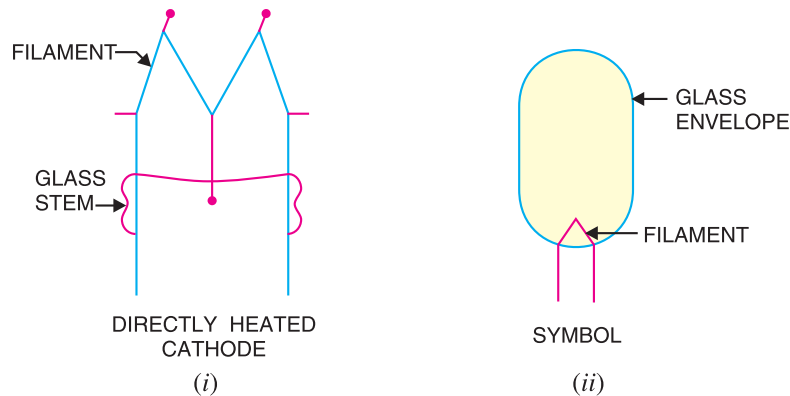

Fig. 2.2
**(i) Directly heated cathode.** In this type, the cathode consists of oxide-coated nickel ribbon, called the \*filament. The heating current is directly passed through this ribbon which emits the electrons. Fig. 2.2 (i) shows the structure of directly heated cathode whereas Fig. 2.2 (ii) shows its symbol.